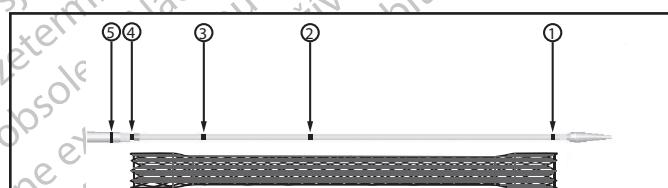
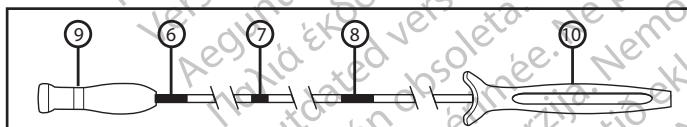

Figure 2. Delivery System and Radiopaque (RO) Markers
Figure 3. Delivery System, Visual Markers and Handles
There are three visual markers on the delivery system handle to aid in stent placement while using endoscopic visualization (Figure 3). The most distal visual marker indicates the stent is fully constrained on the delivery system (Figure 3 #6), one visual marker indicates that the stent is 50% deployed (mid-
point) (Figure 3 #7) and the most proximal visual marker indicates the point at which stent reconstraint is no longer possible (Figure 3 #8).
There are five radiopaque (RO) markers to aid in the deployment of the stent while using fluoroscopy (Figure 2). There are two RO markers on the inner tube of the delivery system identifying the ends of the constrained stent (Figure 2, #1 and #4). Between these RO markers are two additional RO markers. One RO marker indicates the mid-point of the stent (Figure 2 #2). One RO marker on the interior tube indicates the point at which stent reconstraint is no longer possible (Figure 2 #3). The fifth RO marker at the leading end of the exterior tube indicates how far the stent has been deployed (Figure 2, #5).
If using fluoroscopic guidance, position the stent so marker 2 (figure 2) is in the center of the tumor or fistula. This ensures that the stent will properly bridge the tumor.
Begin stent deployment by holding the distal handle (farthest from the operator, (Figure 3 #9) of the delivery system with one hand, and using the other hand, grasp the proximal handle (closest to the operator, Figure 3 #10) and hold this handle stationary. Between the handles is a hypotube with visual markers. These visual markers are intended to aid in stent deployment. Prior to deploying the stent, you can visualize a marker at the fully constrained/undeployed position (Figure 3 #6).
In order to deploy the stent, hold the distal handle (farthest from the operator, Figure 3 #9) with one hand and the proximal handle (handle closest to the operator, Figure 3 #10) with the other hand. To deploy the stent, slowly pull the distal handle toward the proximal handle while holding the proximal handle stationary. Monitor the stent release fluoroscopically and/or endoscopically, keeping the markers on the delivery system between the identified stricture margins. If necessary, it is possible to stop deployment and adjust the stent position proximally without reconstraining the stent prior to passing the reconstraint marker (Figure 3 #8). Refer to the reconstraint technique section. If satisfied with stent placement, proceed with full deployment.
- The stent can be reconstrained at any point up to the reconstraint markers (radiopaque Figure 2, #3 and visual Figure 3, #8).
Note: The stent is fully constrained if visual marker (Figure 3, #6) is fully visible.
- C. Re-sheath the exterior tube of the delivery system by pushing the distal handle (Figure 3 #9) away from the operator. Slowly withdraw the delivery system and guidewire.